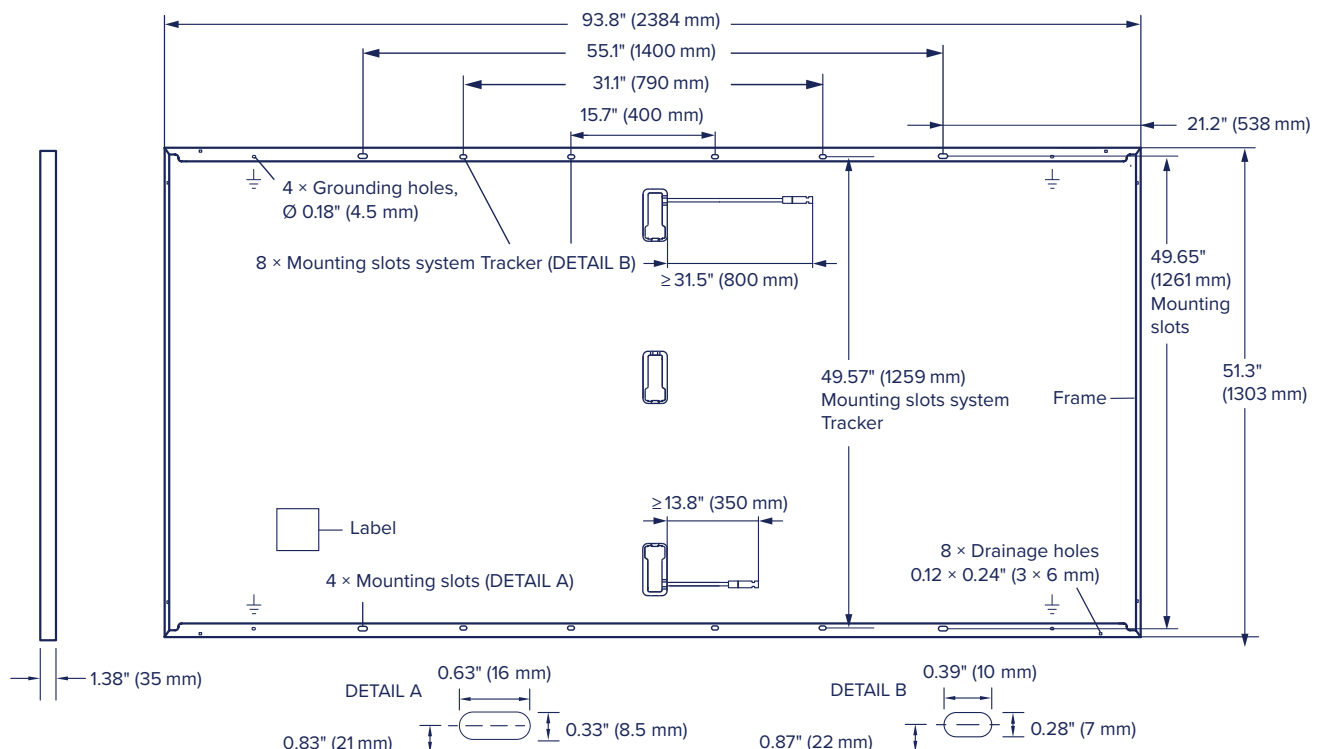

Fig. 1: External dimensions and components for Q.PEAK DUO ML-G12S.3/BFG.
- Clamp position: center of contact area in the axis of the mounting slots (Detail A, Fig.1) or closer to the hollow chamber.